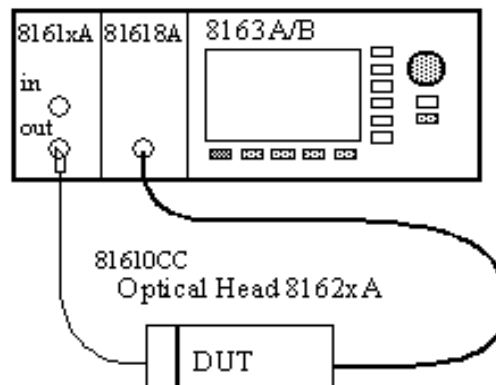

Figure 13 Return Loss Reference Setup
- 2 Connect the equipment as shown in Figure 13.